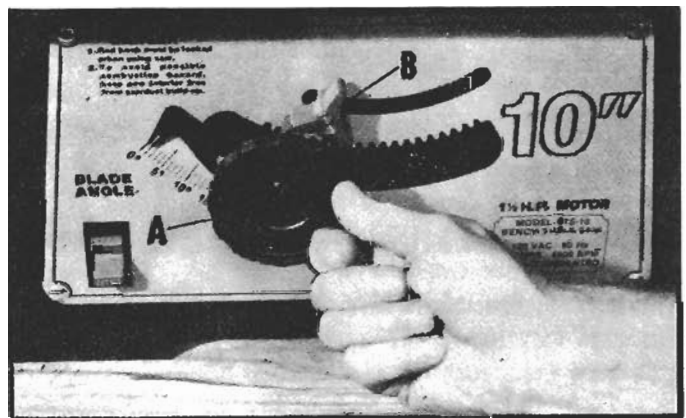

Fig. 34
To raise the saw blade, turn the handwheel (A) Fig. 34 **COUNTER-CLOCKWISE**. To lower the saw blade turn the handwheel (A) **CLOCKWISE**. **IMPORTANT: THE BLADE TILTING LOCK KNOB (B) FIG. 34 MUST BE LOCKED DURING ALL CUTTING OPERATIONS.** It is not necessary to loosen blade tilting lock knob (B) when raising or lowering the saw blade. Detents on the backside of handwheel (A) engage a spring loaded pin to prevent rotation of the handwheel during cutting operations. Always be sure spring loaded pin is free to operate properly and that it is seated in a detent on the backside of handwheel (A) Fig. 34.